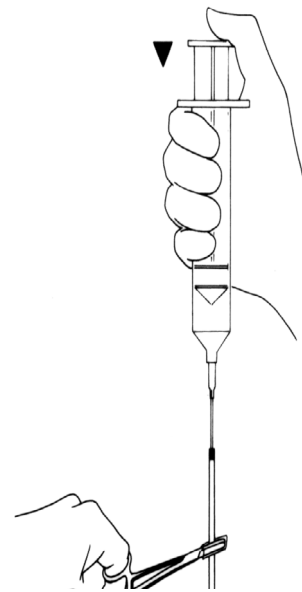

Figure 4-4b. Insert Needle Into Tube
6. Fill the cuff with 1 cc to 5 cc of recommended filling solution, depending on cuff size. (**Figure 4-4b**)